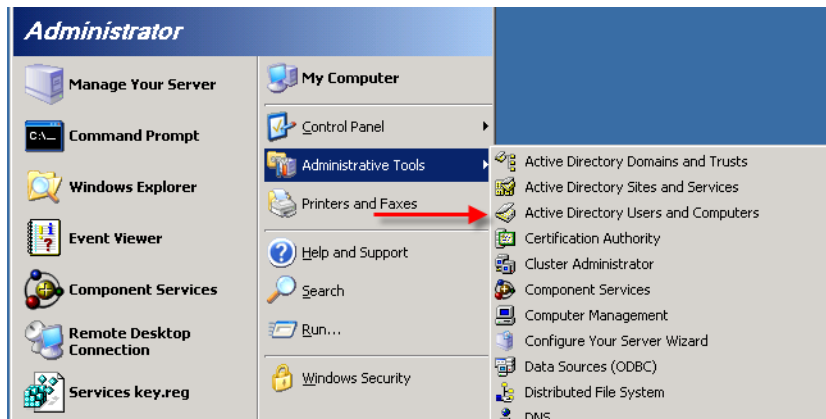

Figure 2-36 Administrative Tools menu
1. Open up Administrative Tools and select **Active Directory Users and Computers**, as shown in figure 2-36 below.